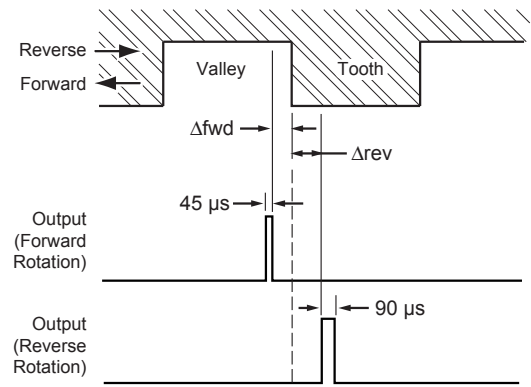

Figure 2. Output pulse timing
**Timing.** As shown in figure 2, the pulse appears at the output pin slightly before the sensed mechanical edge traverses the package. For targets in forward rotation, this shift,  $\Delta_{\text{fwd}}$ , results in the pulse corresponding to the valley with the sensed mechanical edge, and for targets in reverse rotation, the shift,  $\Delta_{\text{rev}}$ , results in the pulse corresponding to the tooth with the sensed edge. The sensed mechanical edge that stimulates output pulses is kept the same for both forward and reverse rotation by using only channel A for switching.